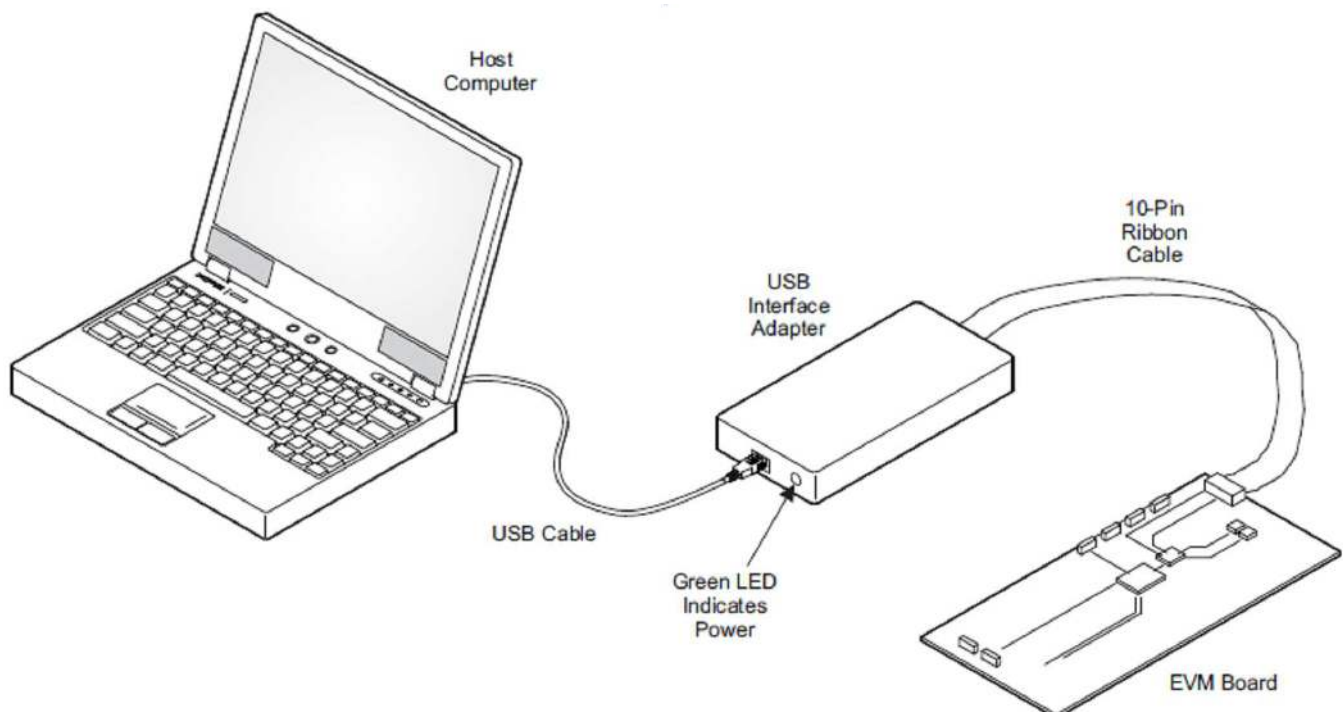

Figure 6. USB Interface Adapter Quick Connection Diagram
- Connect one end of the USB-TO-GPIO box to the PC using the USB cable and the other end to P1 of the TPS65235 using the supplied 10-pin ribbon cable, per Figure 6. The connectors on the ribbon cable are keyed to prevent incorrect installation.